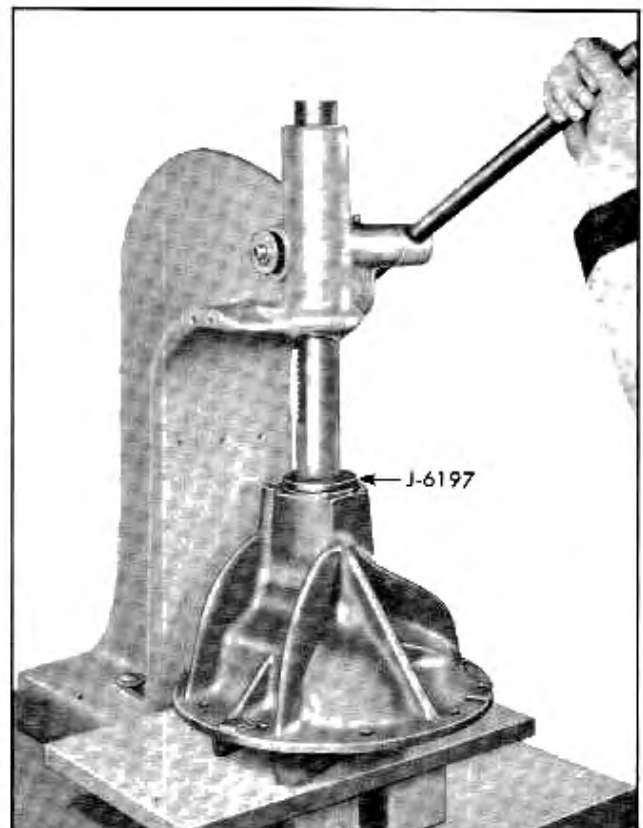

Fig. 4-33 Installing Front Bearing Outer Race With Installer J-6197
17. If pinion front bearing outer race was removed, press outer race firmly into place against shoulder in carrier using Installer J-6197 (Fig. 4-33).